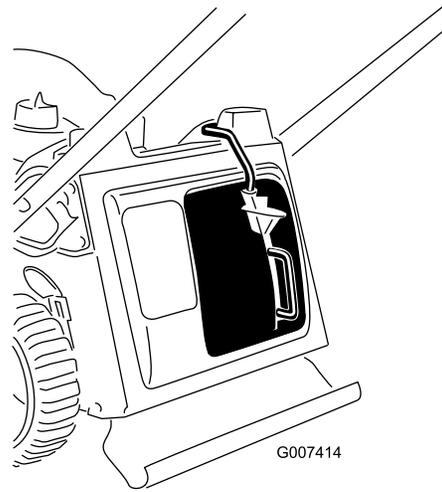

Figure 11
3. Release the button on the lever and ensure that the top of the lever is fully in the switch channel (Figure 11). **If the top of the lever is not in the switch channel, your machine will not start.**